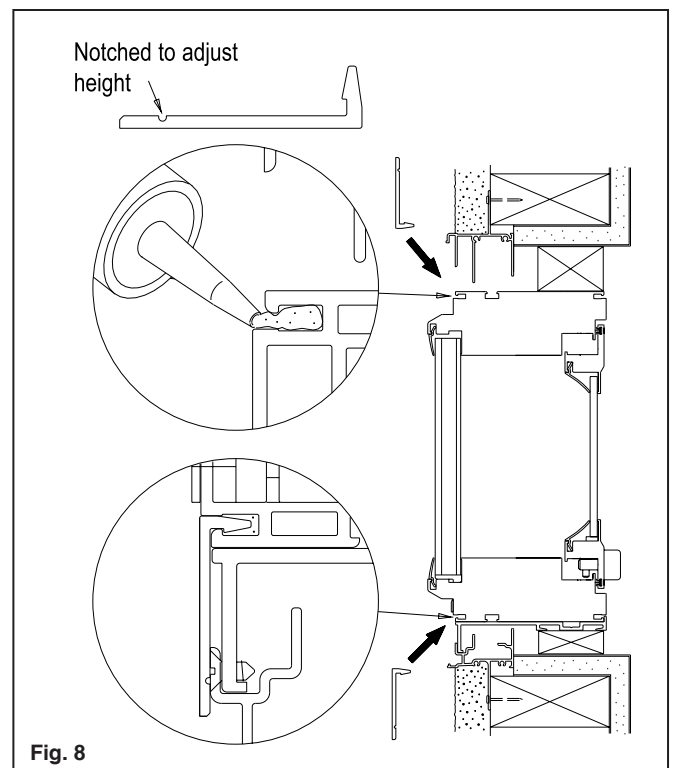
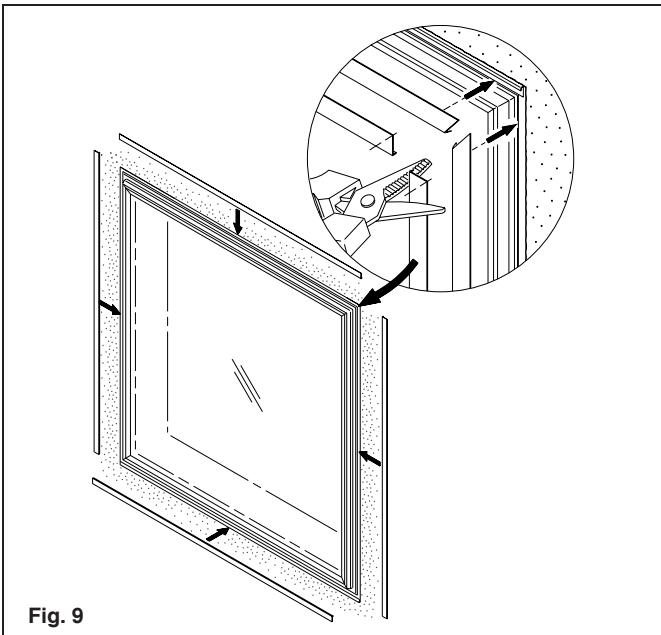

Fig. 8
Fig. 9
A. An optional flat trim material is available to finish off the exterior look. The trim material will be sealed with an appropriate sealant and snapped into the gap that follows the perimeter of the frame. See **Fig. 8**. Measure the pieces to the frame and with a sharp knife or a heavy scissor, make a 45° cut for a miter fit. Care should be taken not to over cut trim. See **Fig. 9**.